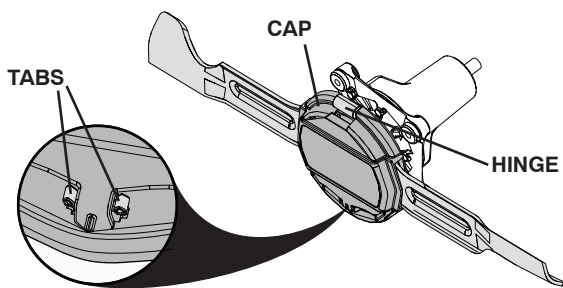

Fig. 16
## BLADE REPLACEMENT (See Figs. 16 - 21)
- Squeeze tabs inward to release cap. Remove by lifting cap from hinge and set aside. (See Fig. 16.)